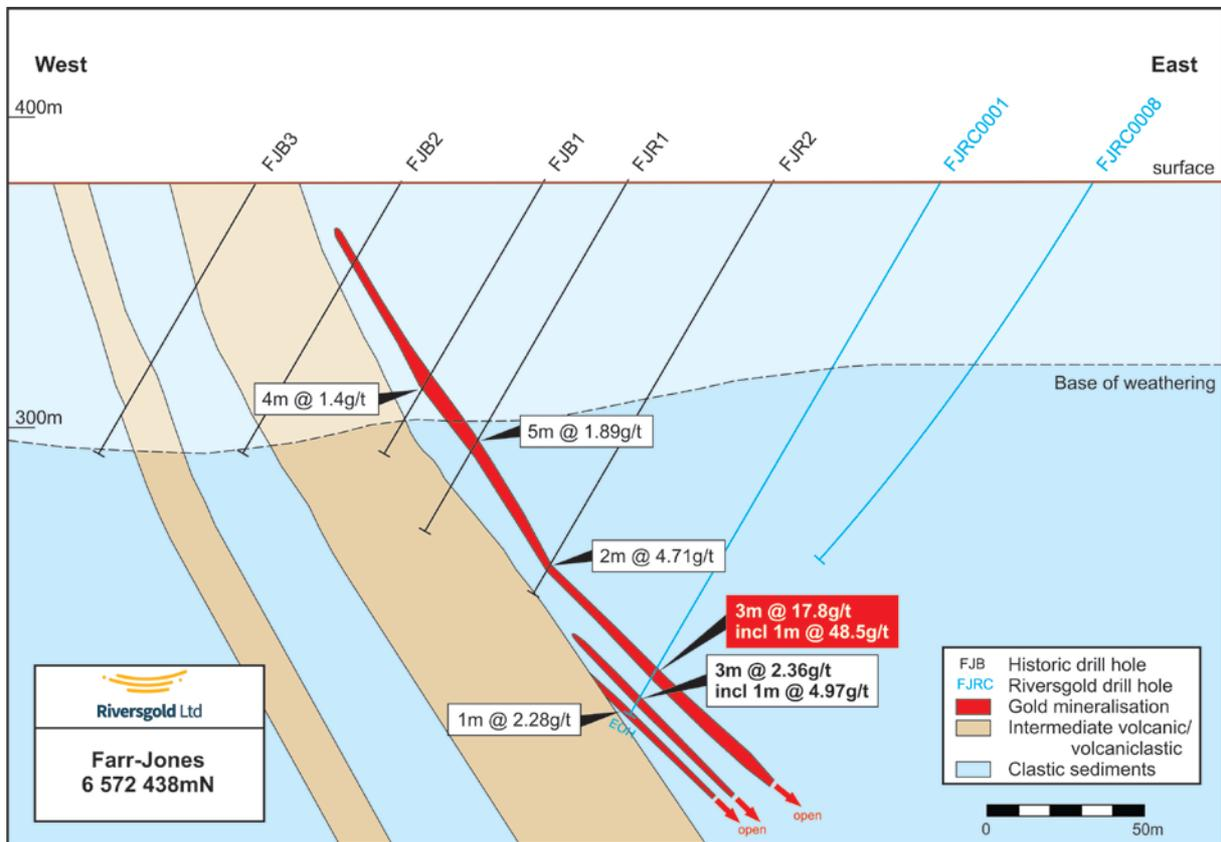

Figure 3. Farr-Jones cross section 6,572,438mN.
**FJRC0008** was drilled down-dip from **FJRC0001** but was abandoned before reaching the target depth due to the hole dip deviating upwards excessively (Figure 3).